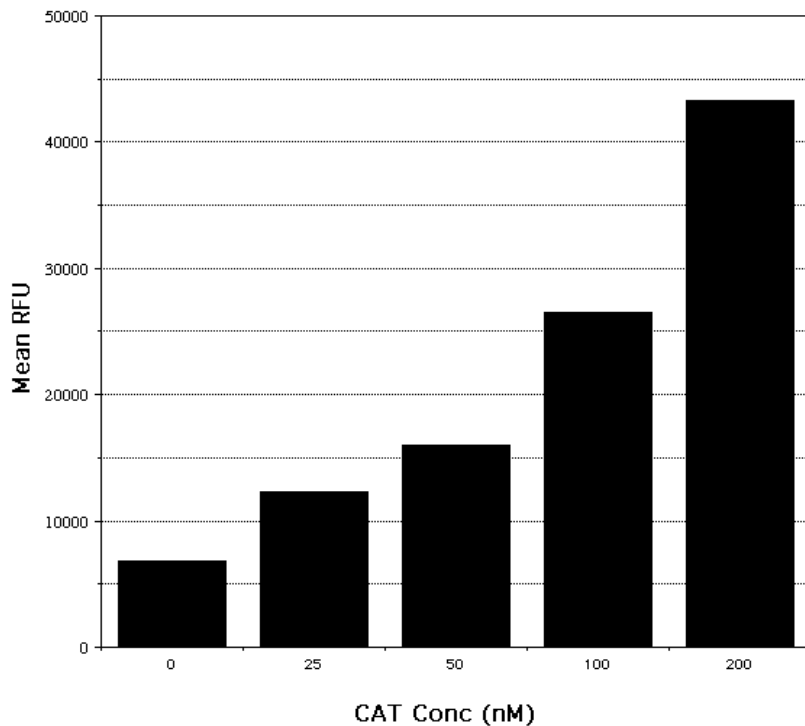

Figure 1:
1. Plot the mean of the duplicate relative fluorescence units (RFU) at 380ex/520em versus Enzyme concentration. (Figure 1)